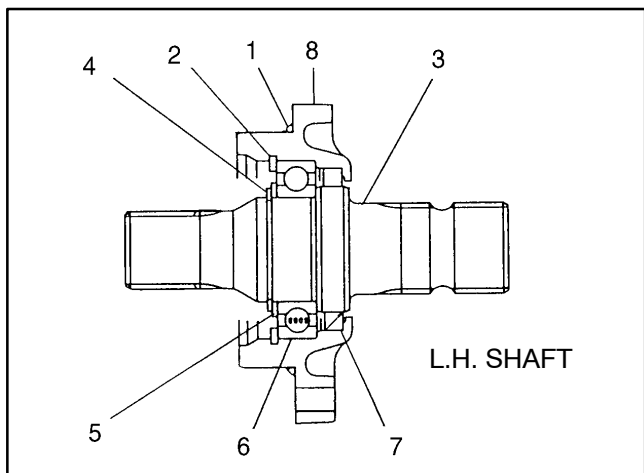

Figure 65
2. Assemble differential carrier (L.H. axle shaft) assembly (Fig. 65):
3. Assemble R.H. axle shaft (Fig. 65):